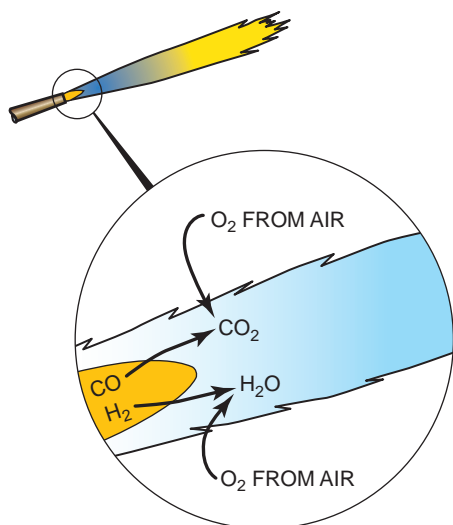

FIGURE 3-35 Secondary flame reaction.
In the secondary reaction, oxygen (O_2) unites with free hydrogen (H) to form water vapor (H_2O) and liberates more heat. Also, the carbon monoxide (CO) unites with additional oxygen (O_2) to form carbon dioxide (CO_2), **Figure 3-35**.